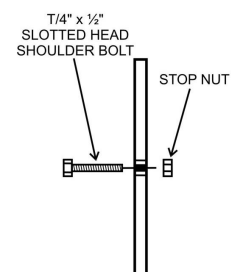

Figure 3.
5. Insert bolts and tighten nuts with a wrench as shown in *Figure 3*.
8. Insert the bolts and tighten all nuts with the wrench. See *Figure 3*.